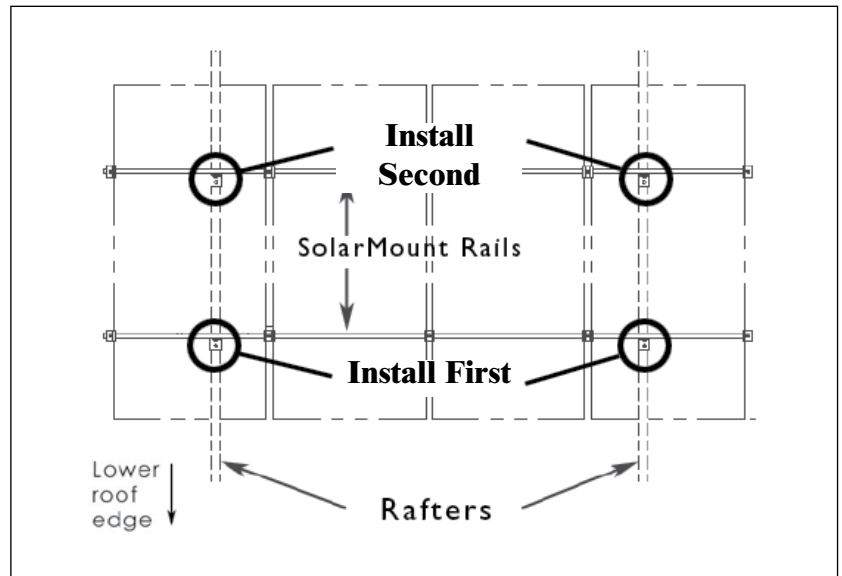
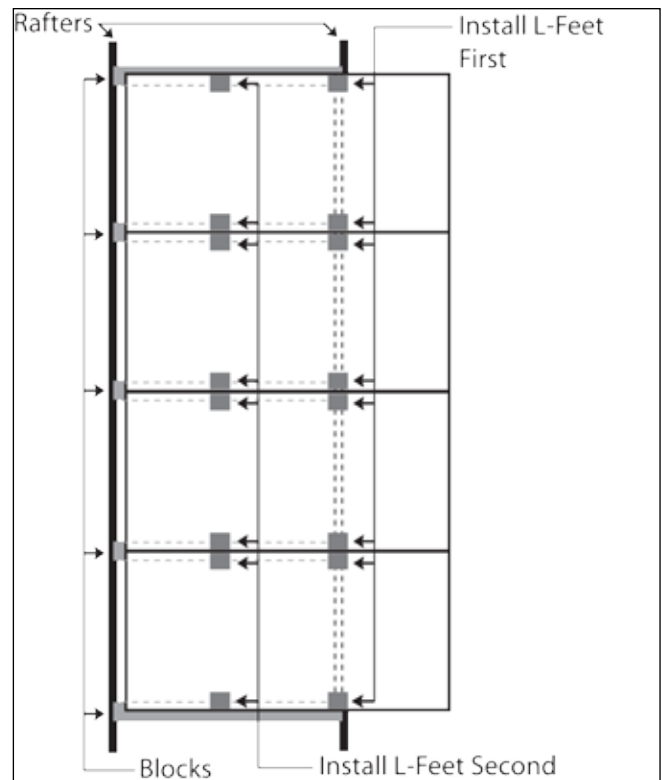

Figure 23. Layout with rails perpendicular to rafters.
Figure 24. Layout with rails parallel to rafters.
- If rails are perpendicular to rafters (Fig. 23), install the feet closest to the lower edge of the roof.
- If rails are parallel to rafters (Fig. 24), install the feet for one of the rails, but not both.
Squirt sealant into the hole and onto the shafts of the lag screws. Seal the underside of the L-feet with a sealant. Securely fasten the L-feet to the building structure with the lag screws. Ensure that the L-feet face as shown in Figure 23 or Figure 24.